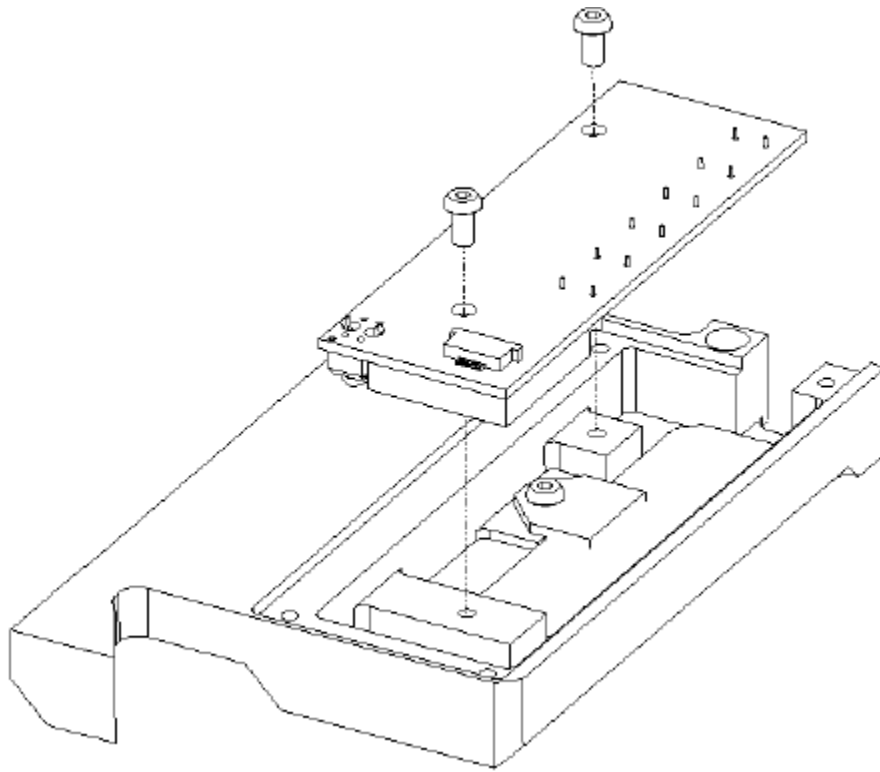

Figure V-8: Photodiode PCB
3. Disconnect the flex cable; then remove the Photodiode PCB from the housing by unscrewing the two M3x6 Socket Button Head screws (Figure V-8).
Disconnect all hardware that is connected to the PCB. The SRS Moveable PCB is mounted on the Carriage support and can be removed by unscrewing the three M3x6 Socket Head Cap Screws (Figure V-8). When replacing the board, use Loctite 222.